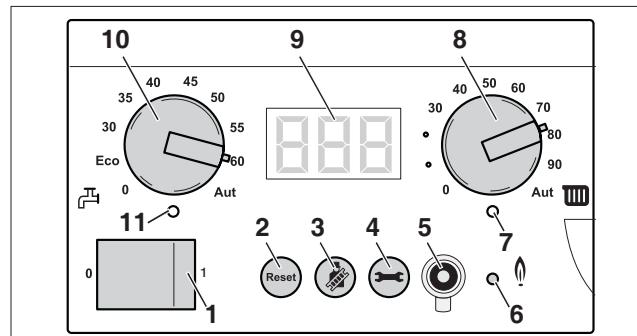

fig. 92 BC10 basic controller
- Switch on the heating system by pressing the mains switch of the Logamatic BC10 basic controller (fig. 92, **item 1**).
- Press and hold the "Chimney sweep" button (fig. 92, **item 3**) (approx. two seconds), until the dot in the right-hand bottom corner of the display (fig. 92, **item 9**) appears. See also table 9, "Flue gas test", page 52.
- After the "Burner" LED (fig. 92, **item 6**) has lit up wait for one minute until the boiler is burning at full load.
- Press the "Service" button (fig. 92, **item 4**) repeatedly until the temperature reading is shown in the display.
- Press the "Chimney sweep" button (fig. 92, **item 3**) to clear the reading. Also see table 9, "Flue gas test", page 52.
- Press the "Chimney sweep" button (fig. 92, **item 3**) to clear the reading. See also table 9, "Flue gas test", page 52.